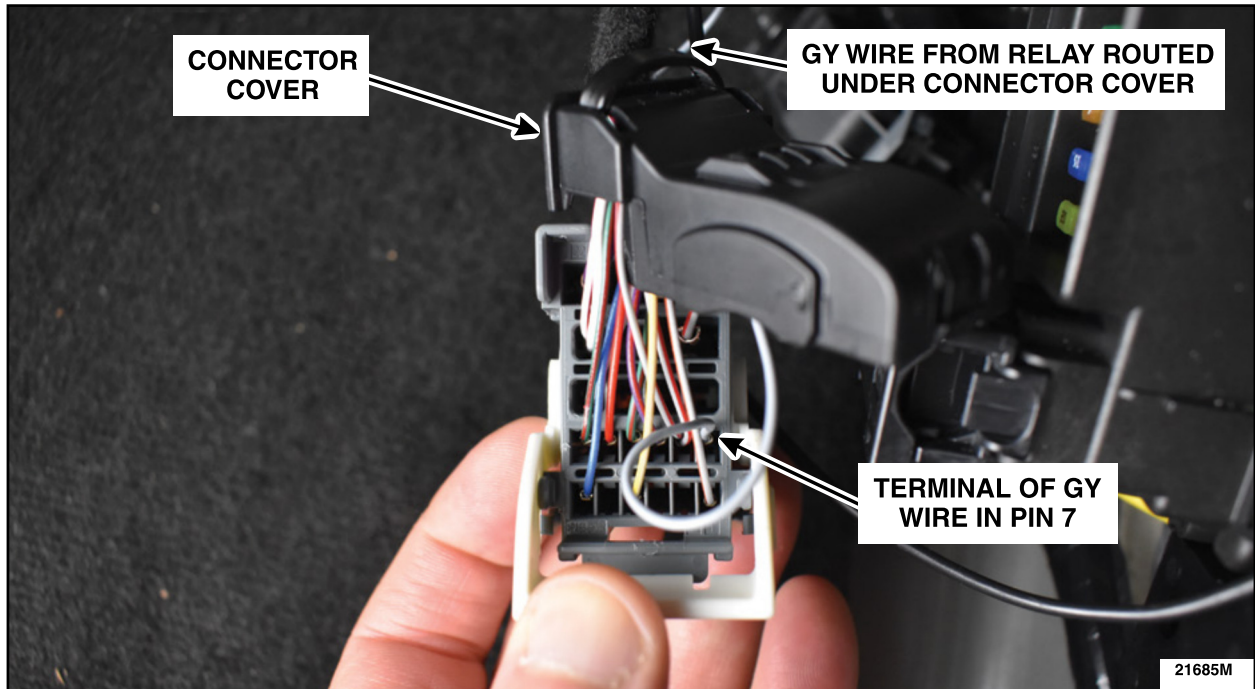

FIGURE 12
16. Release and position aside the connector cover. Route the Grey (GY) wire from the relay through the cover and install the terminal into Pin 7. See Figure 12.